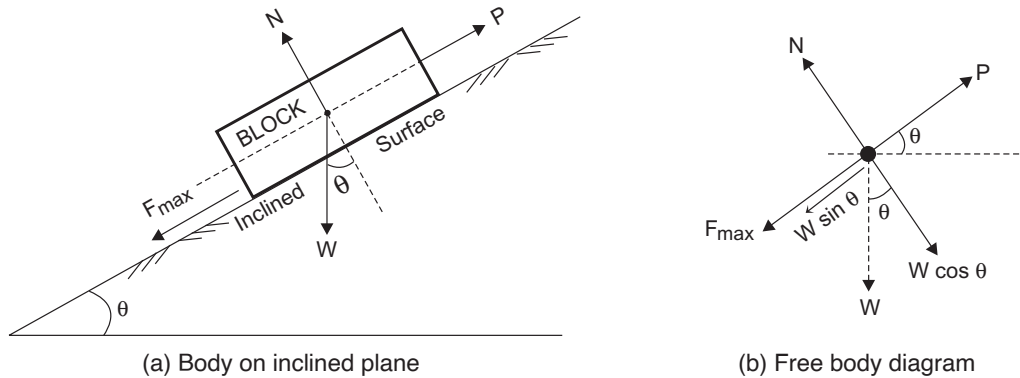

Fig. 3.10: Equilibrium of body on inclined plane surface
3.3.1 Equilibrium of a body on an inclined plane with parallel external force to plane (Fig. 3.10)
(a) External force is applied as pull for upward motion of the body on inclined plane surface: The forces acting on the body for this case are shown in fig. 3.10.